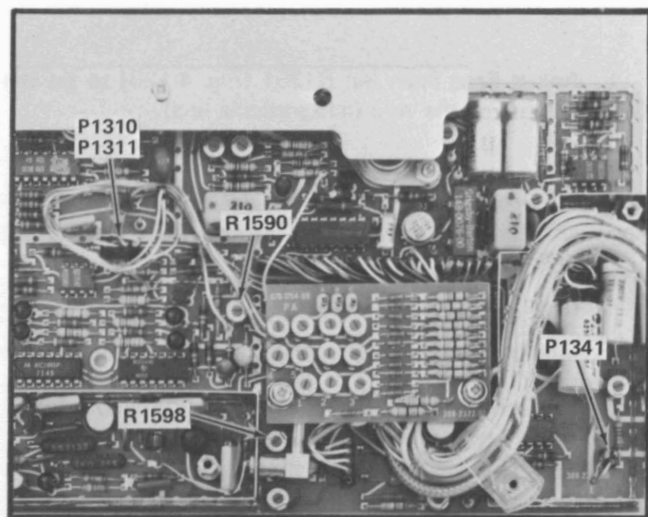

Fig. 4-11. Location of and connections required to calibrate the Voltage Memory circuit.
b. Remove the harmonica connector, for cable W69, from the phase lock search oscillator. Remove the jumpers P1311 and P1310 (Fig. 4-11) and connect one jumper between the center pins.
e. Switch the FREQ SPAN between the .2 MHz/Div and .1 MHz/Div positions (no phase lock to phase lock mode) and note the signal offset. Adjust the Memory Offset R1590 (Fig. 4-11), with the FREQ SPAN/DIV, in the .2 MHz position, until the signal offset between no phase lock to phase lock mode is minimum.